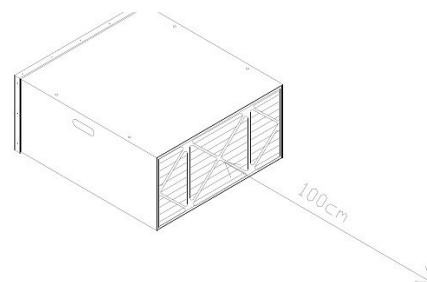

Fig. 11: Positioning of the filter
Step 1: Make sure that the filter is placed correctly (Fig.11). The back of the filter must not be clogged.